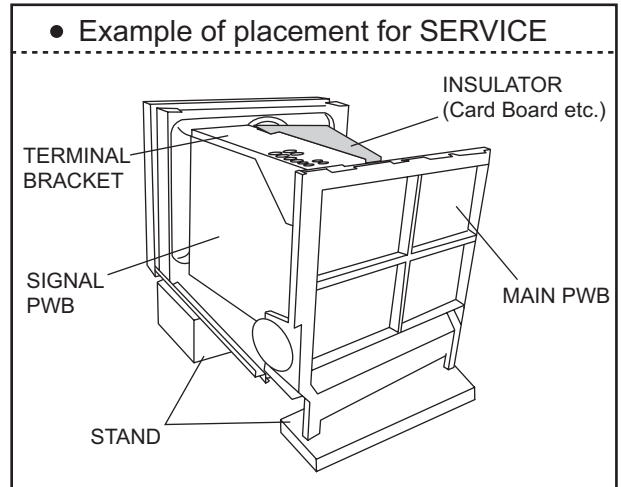

Fig.5
- (1) As shown in Fig.5, place the unit for service.
- (2) Erect the chassis base vertically so that you can easily check the PW board from back side.